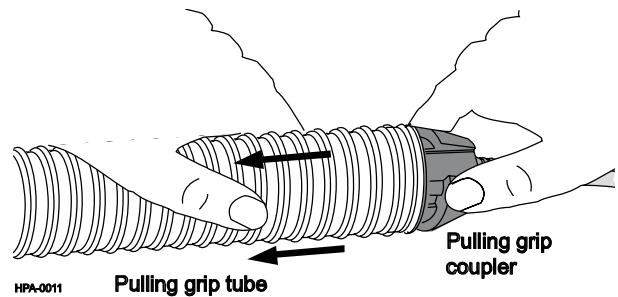

Figure 7 — Grip Disassembly
Step 4: With the grip lying on a work surface, grasp the coupler at the cable-end of the trunk cable. With a slight twisting motion, pull the corrugated tube away from the coupler with your other hand (Figure 7).